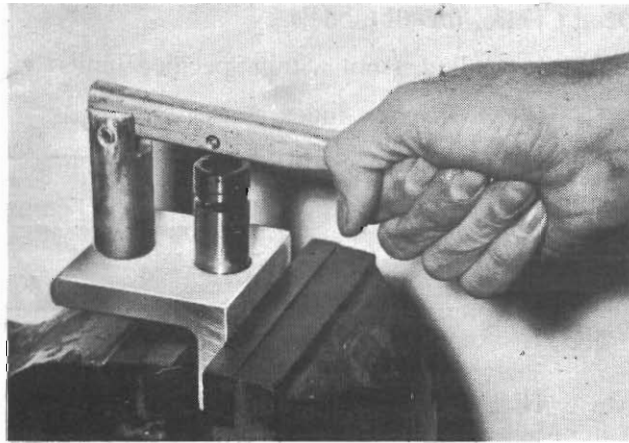

Fig. 21 - Hydraulic tappet assembly testing by hand, using Tool E9C40C
(Refer Fig. 21).
- (1) Fill a pan with clean kerosene.
- (2) Remove cap from plunger and plunger from tappet body.
- (3) Fill tappet body with kerosene and install plunger.
- (4) Unseat check valve with a brass rod to permit complete installation of plunger. Replace metering valve and cap, (dimple toward the cap).
- (5) Place tappet upright in Tool E9C40C as shown in Fig. 21.
(6) Engage push rod of tool with top of tappet plunger. Test leak down by pressing on the Tool arm. If plunger collapses instantly as pressure is applied, disassemble tappet, clean and test again (Fig. 21).
(7) If tappet still does not operate satisfactorily after cleaning, install a new tappet assembly.